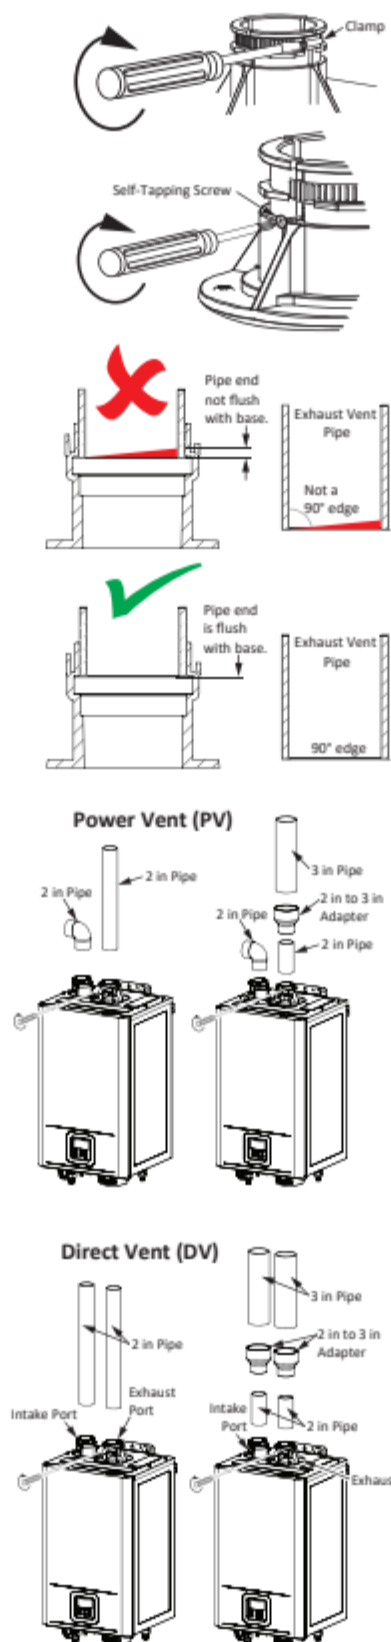

Figure 15 - Vent Pipe Installation
1 Insert 2 in diameter straight pipe fully into the exhaust/intake connection ports until fully seated (See Figure 15). The pipes will insert at a minimum of 1.5 inches.
- 2** Use a screwdriver to tighten the clamp. (See Figure 15)
- 3** Use the supplied self-tapping screws to secure the venting to the intake and exhaust ports as shown in the image on the right. (See Figure 15)